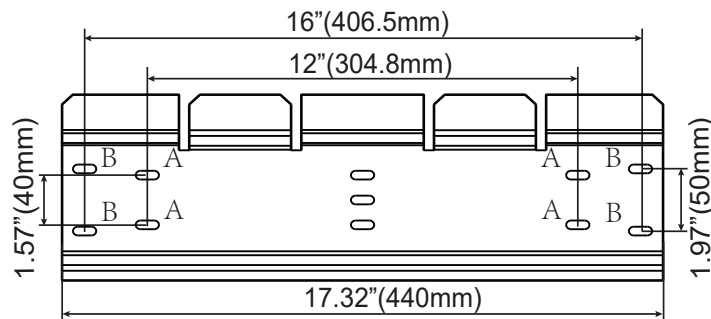

Figure 8: Dimension drawing of mounting plate
1. Mount the mounting plate to the wall with at least 4 screws and anchors (\emptyset 6mm). With 4 screws use 4 holes A or 4 holes B (see Figure 8). You can use the mounting plate as a template for marking the positions of the boreholes. Avoid installation on a non-load bearing wall.
1. Using the mounting plate as a template, mark four screw holes onto the wall. Use the four holes that are indicated for this purpose in the figure 8. Make sure the holes are in the center of each stud before marking the drill location.